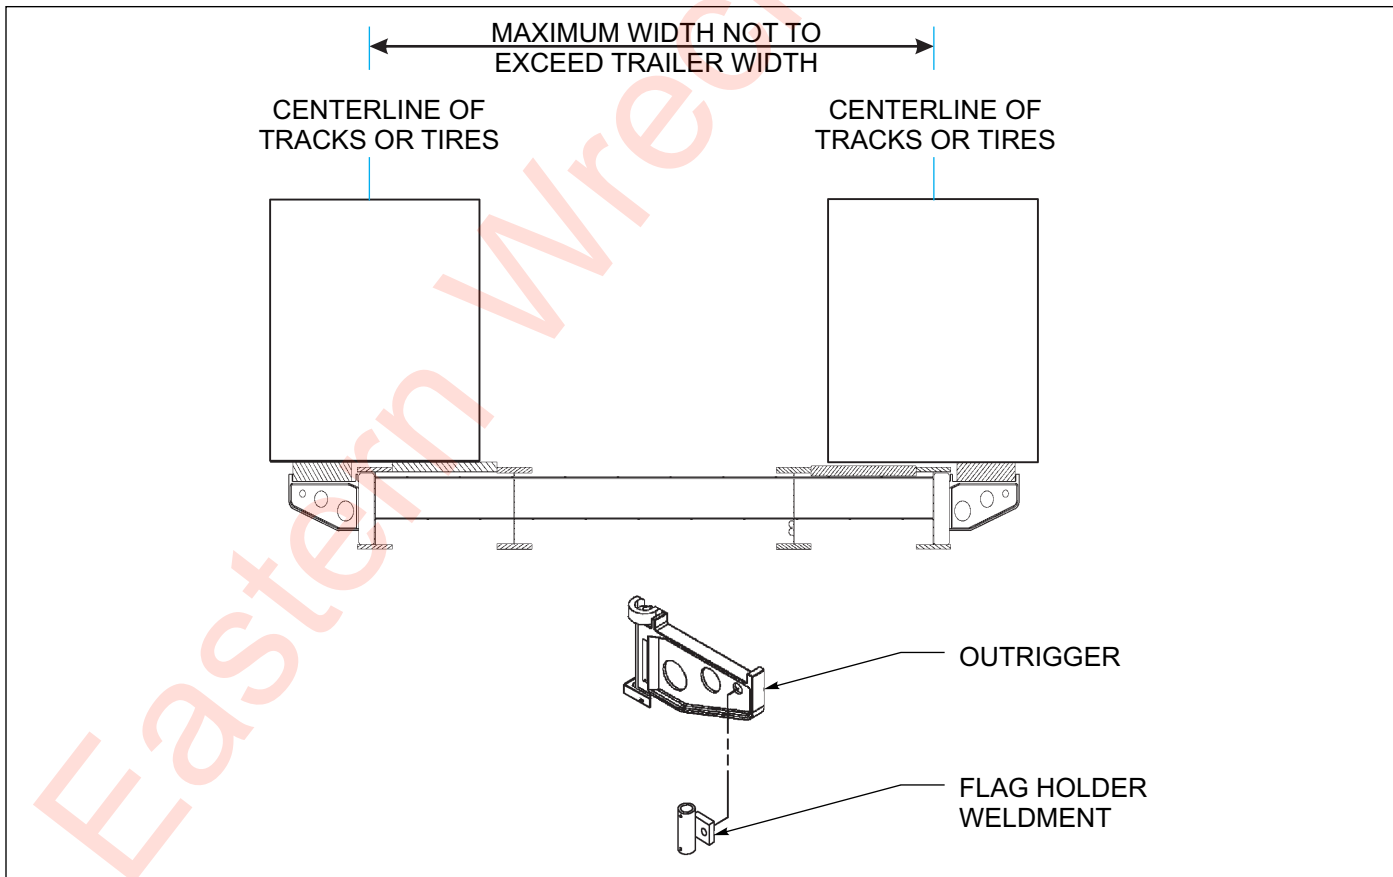

Figure 3-6: Swingout Outrigger Platform Extension
2. Park the tractor/semitrailer in a straight line on level even surface. Set the tractor brakes and release the semitrailer brakes (**See Figure 3-6.**)